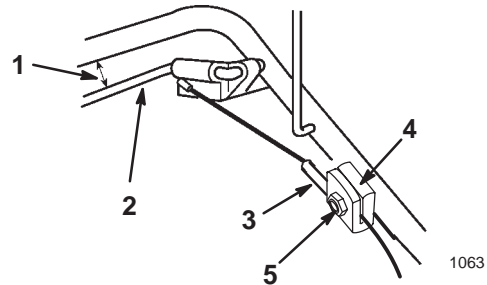

Figure 19
1. Loosen the nut on the cable support (Fig. 19).
2. Hold the self-propel drive bail 1 to 1-1/2 in. (25 to 38 mm) from the handle (Fig. 19).